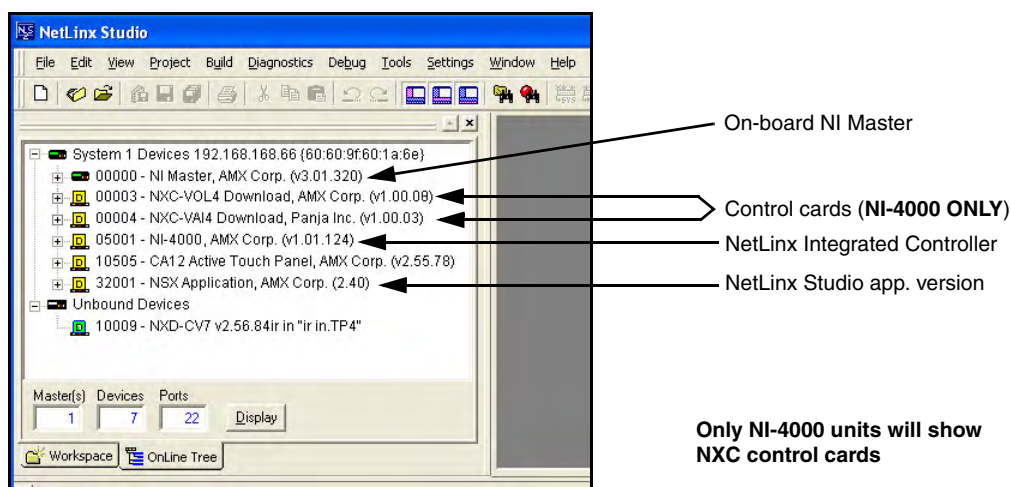

FIG. 35 Sample NetLinx Workspace window (showing OnLine Tree tab)
2. After Studio has establish a connection to the target Master, click the **OnLine Tree** tab of the Workspace window to view the devices on the System. *The default System value is one (1).*
4. After the Communication Verification dialog window verifies active communication between the PC and the NI unit, verify the NetLinx NXC Control Cards appear in the **OnLine Tree** tab of the Workspace window (FIG. 35).